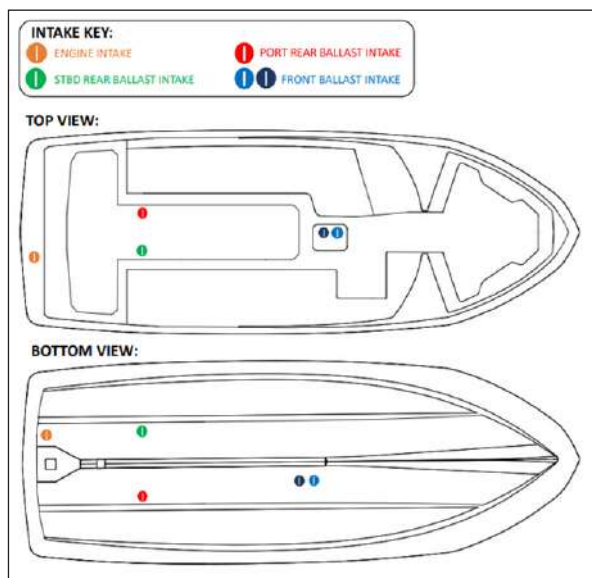

Figure 1: Intake Diagram
- Locate the thru-hull ports on the starboard and port sides of the boat upon arrival to the designated inspection/wash station. See Figures 1 and 2 below for thru-hull port locations: